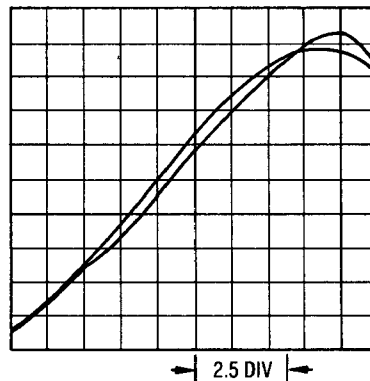

Figure 5-13. Offset YTM Response
20. Tune to 13 GHz and adjust A1A8R41, BD3 LO, to center the response 2.5 divisions to the right of center. The response should be as shown in Figure 5-13.